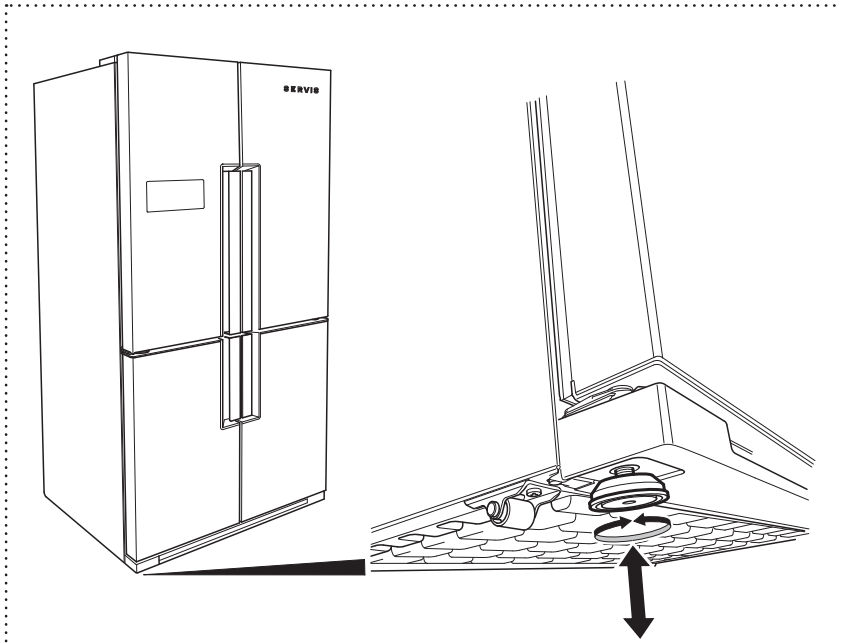

Figure 7
- 1 To increase the height of the front of the Fridge Freezer, turn the feet clockwise (Figure 7).
- 2 To decrease the height of the front of Fridge Freezer, turn the feet anti-clockwise (Figure 7).